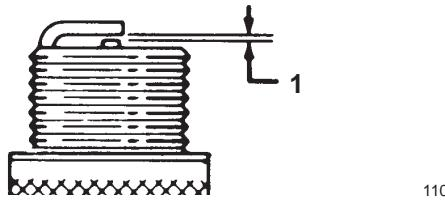

Figure 37
6. Set the gap between the electrodes on the spark plug at 0.030 in. (0.76 mm) as shown in Figure 37.